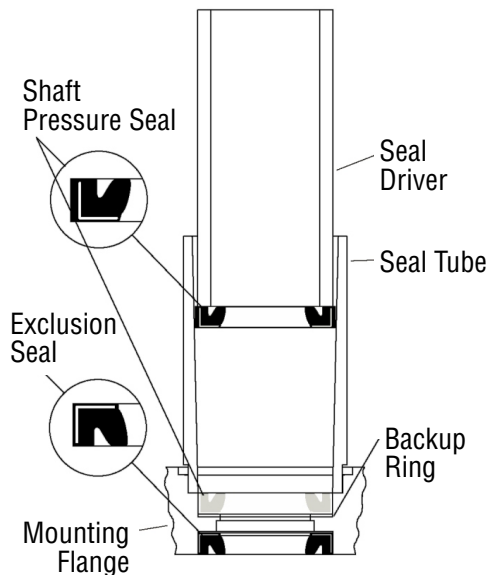

Figure 5-30, Seal Installation
10. Install the exclusion seal into the mounting flange. Carefully press the exclusion seal into place. (Figure 5-30)